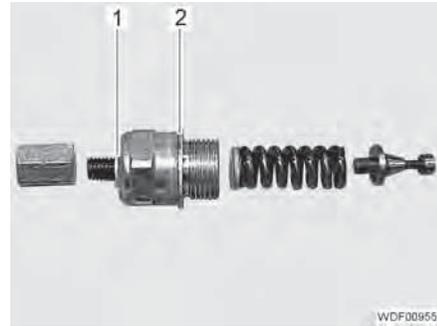

Fig. 184 Seals
- Replace the copper seals (Fig. 184,1 and 2).